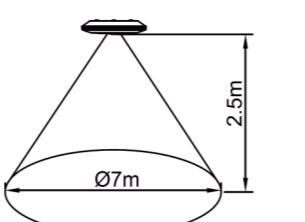

FIG. 2
3.1.1 It can be installed at the height of 2 - 3m, it's recommended to install it at the height of 2.5m to gain the optimal detection pattern, the detection range can reach up to the diameter of 7m and cover 360° detection angle (See FIG.2).